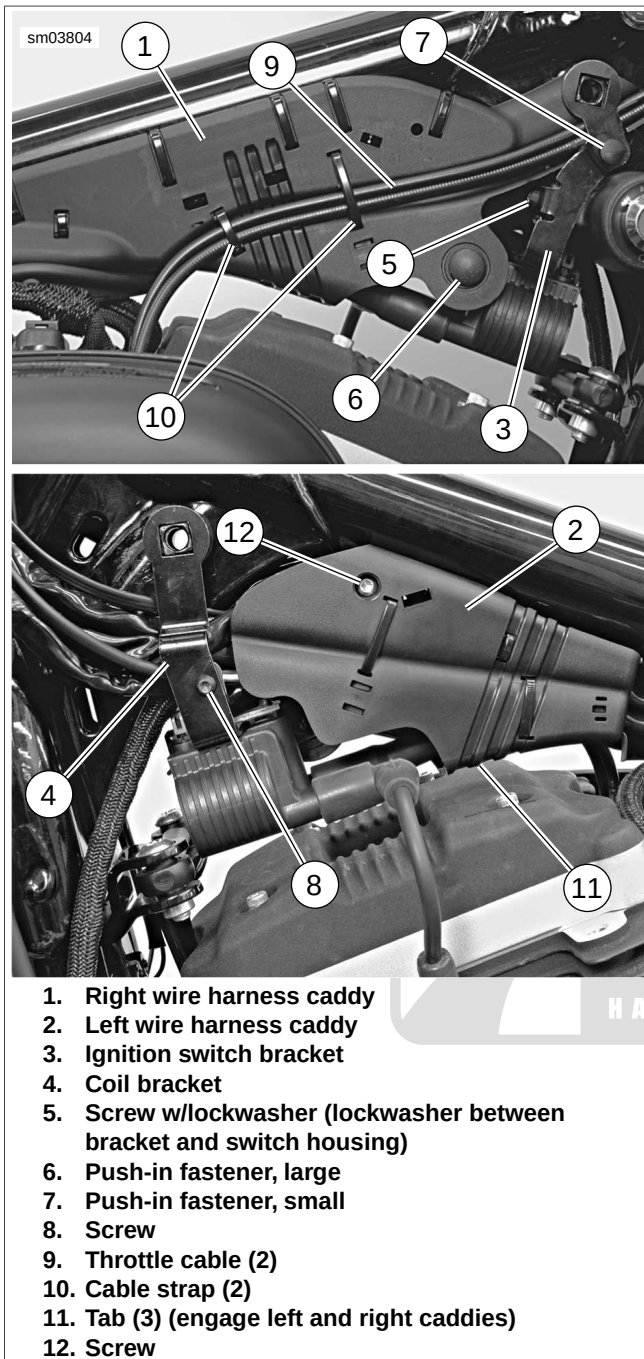
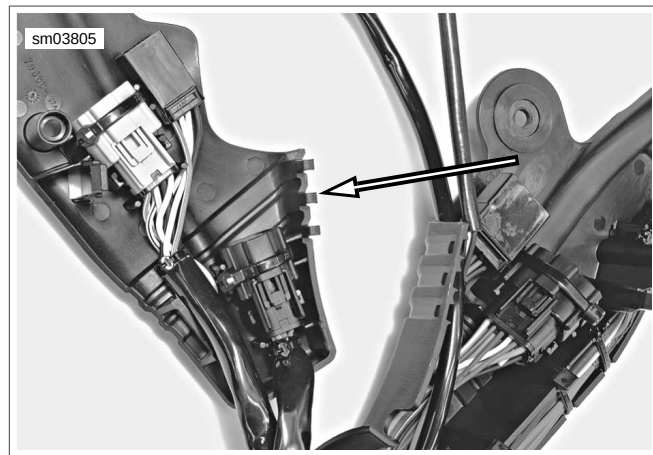
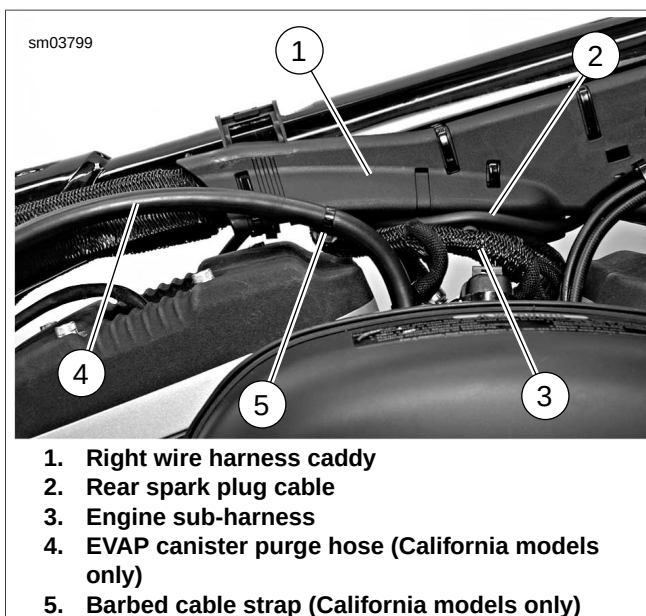
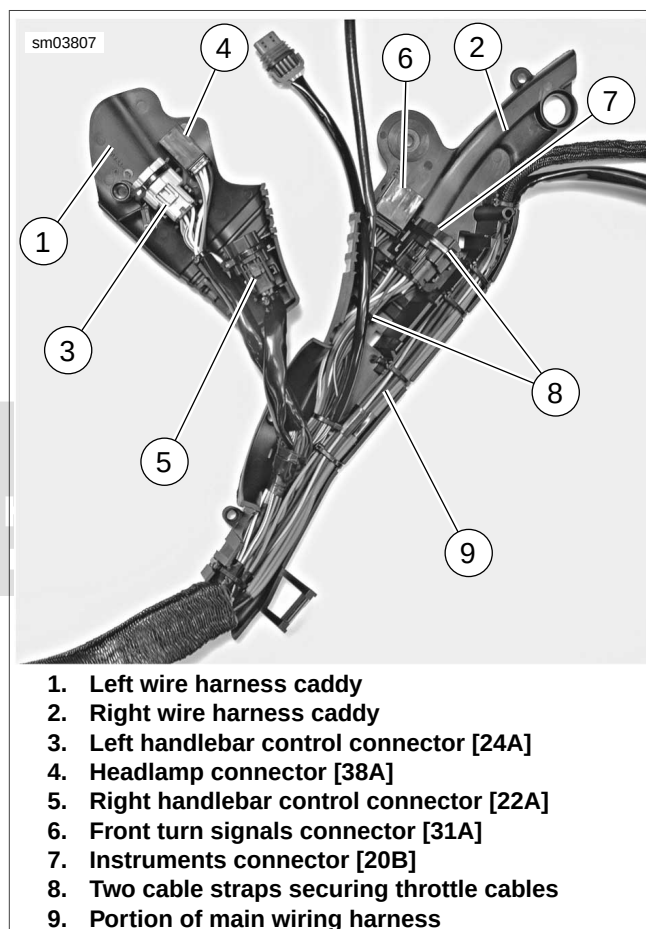

Figure 6-112. Wire Harness Caddy Assembly
Figure 6-113. Wire Harness Caddy: Locking Tabs
Figure 6-115. Rear Spark Plug Cable Routing
Figure 6-116. Wire Harness Caddies (Removed from Vehicle for Clarity)
See Figure 6-112. The wire harness caddy assembly (1, 2) is secured to the ignition switch bracket (3) with two push-in fasteners (6, 7), and to the frame with mounting tabs hooked onto a bracket under the frame backbone tube. The left and right wire harness caddies are locked together with three tabs (see Figure 6-113) and secured with a screw (item 12, Figure 6-112).
5. See Figure 6-112. Remove screw (8) and disengage coil bracket (4) from mounting boss on frame.
9. See Figure 6-112. Remove screw (12) and carefully disengage left wire harness caddy (2) from right wire harness caddy (1).
10. Cut two cable straps (10) securing throttle cables (9) to right wire harness caddy.
11. See Figure 6-115. Disengage rear spark plug cable (2) from trough in right wire harness caddy (1). Cut barbed
12. California models: Cut barbed cable strap (5) securing EVAP canister purge hose (4) to rear of right wire harness caddy.
13. See Figure 6-112. Remove and discard push-in fasteners (6, 7). Unhook right wire harness caddy from frame backbone bracket. Lower ignition switch bracket (3) from mounting bosses on frame to free right wire harness caddy.
14. See Figure 6-116. Unplug the following connectors:
- a. Headlamp connector [38B] (4).
- b. Left hand control connector (gray) [24B] (3).
- c. Right hand control connector (black) [22B] (5).
- d. Front turn signal connector [31B] (6).
- e. Instruments connector [20A] (7).
1. See Figure 6-116. Fit portion of main wiring harness (9) and ignition switch harness along top of right wire harness caddy (2) and secure with cable straps, as shown in the figure.
2. Mount front turn signals connector [31A] (6) onto mounting tab on right wire harness caddy.
3. See Figure 6-112. Place throttle cables (9) in groove in right wire harness caddy (1).
4. See Figure 6-116. Place instruments connector [20B] (7) into right wire harness caddy (2). Secure connector and throttle cables with a cable strap (8). Secure throttle cables and harnesses (as shown in the figure) with a second cable strap.
5. Mount handlebar control connectors [22A], [24A] (5, 3) to left wire harness caddy (1) with cable straps. Mount headlamp connector [38A] (4) onto tab on left wire harness caddy.
6. See Figure 6-112. Hook right wire harness caddy (1) into bracket on frame backbone. Secure front of caddy onto ignition switch bracket mounting boss on right side of frame. Raise ignition switch bracket (3) up into position and mount it onto boss on frame.
10. Route rear spark plug cable (3) from ignition coil (1) tower down through notch (4) in right wire harness caddy.
11. See Figure 6-115. Route rear spark plug cable (2) in right wire harness caddy trough.
12. Route engine sub-harness (3) around trough in right wire harness caddy. Secure sub-harness to caddy trough with a cable strap. Run strap through hole in boss that originally secured engine sub-harness.
13. **California models:** Secure EVAP canister purge hose (4) to rear of right wire harness caddy with a barbed cable strap (5).
- a. Instruments connector [20A] (7).
- b. Front turn signal connector [31B (6)].
- d. Left hand control connector (gray) [24B] (3).
- e. Headlamp connector [38B] (4).
15. See Figure 6-112. Mate left wire harness caddy (2) to right wire harness caddy (1). Secure with screw (12) and tighten.